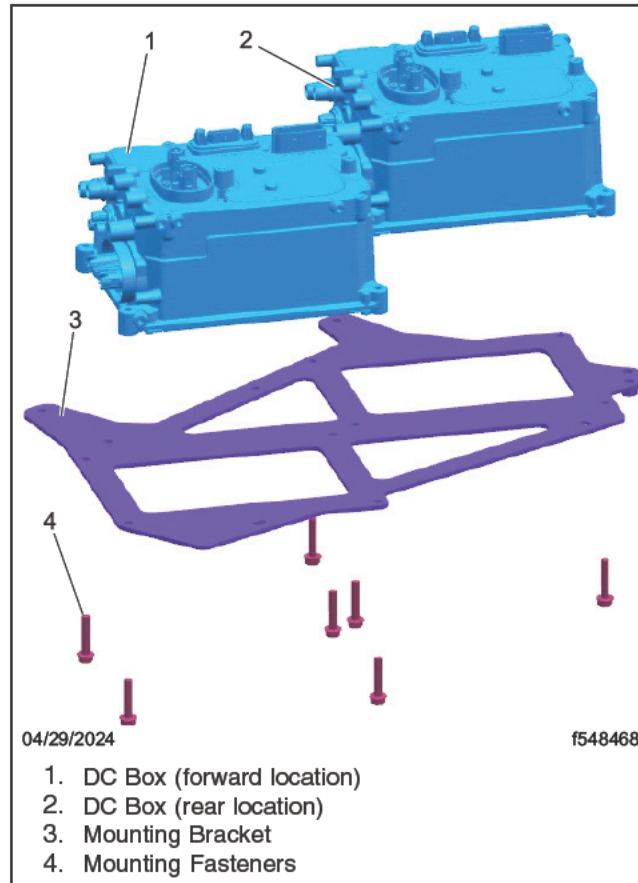

Fig. 19, Removal of DC Box
17. Remove the DC box(es) from the mounting bracket. See Fig. 19.
20. Install the DC box(es) on the mounting bracket, and install the fasteners that attach the DC box(es) to the mounting bracket. Tighten the fasteners 115 lbf-in (1300 N-cm). See Fig. 19